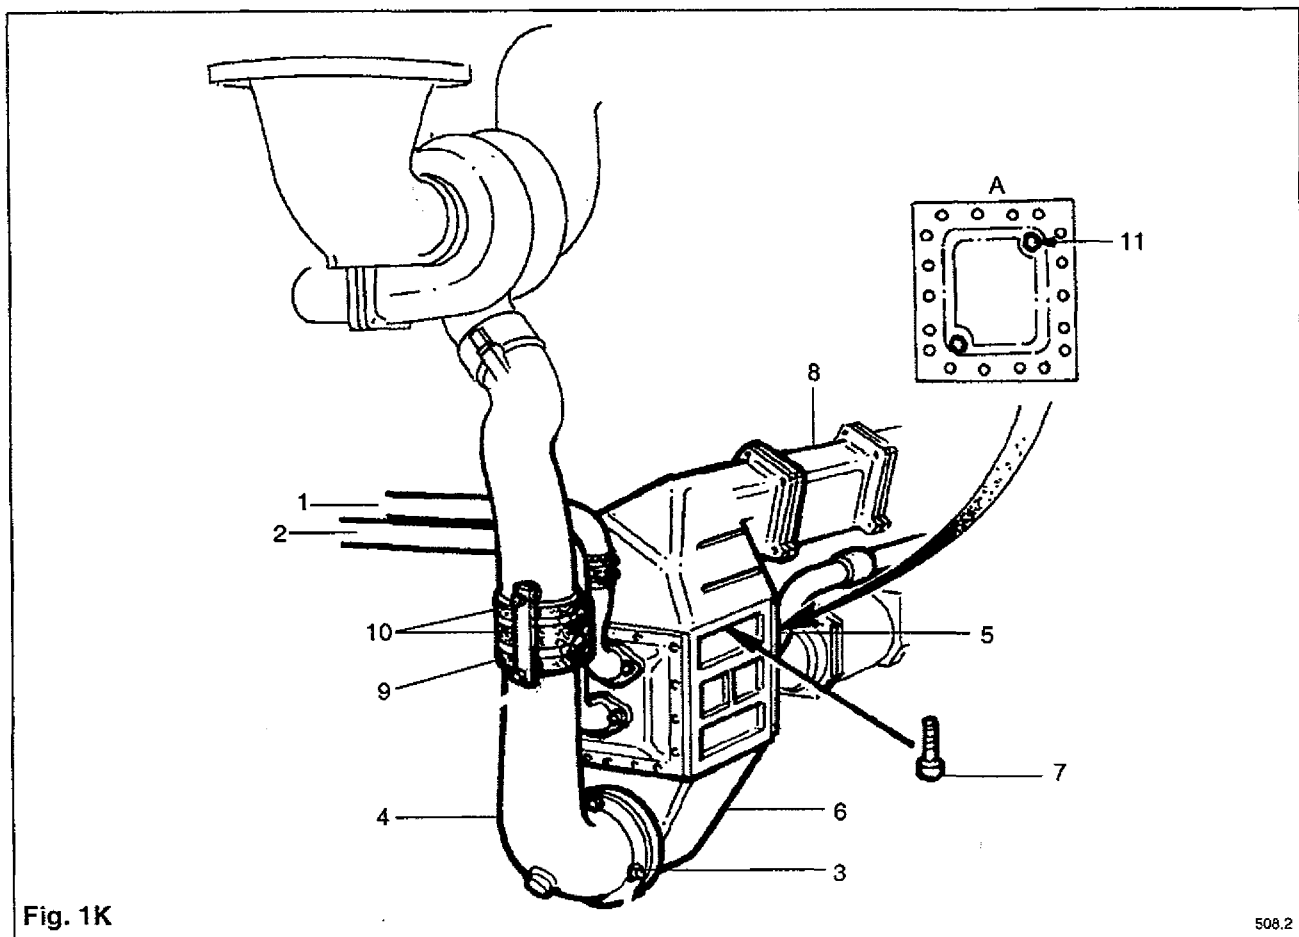
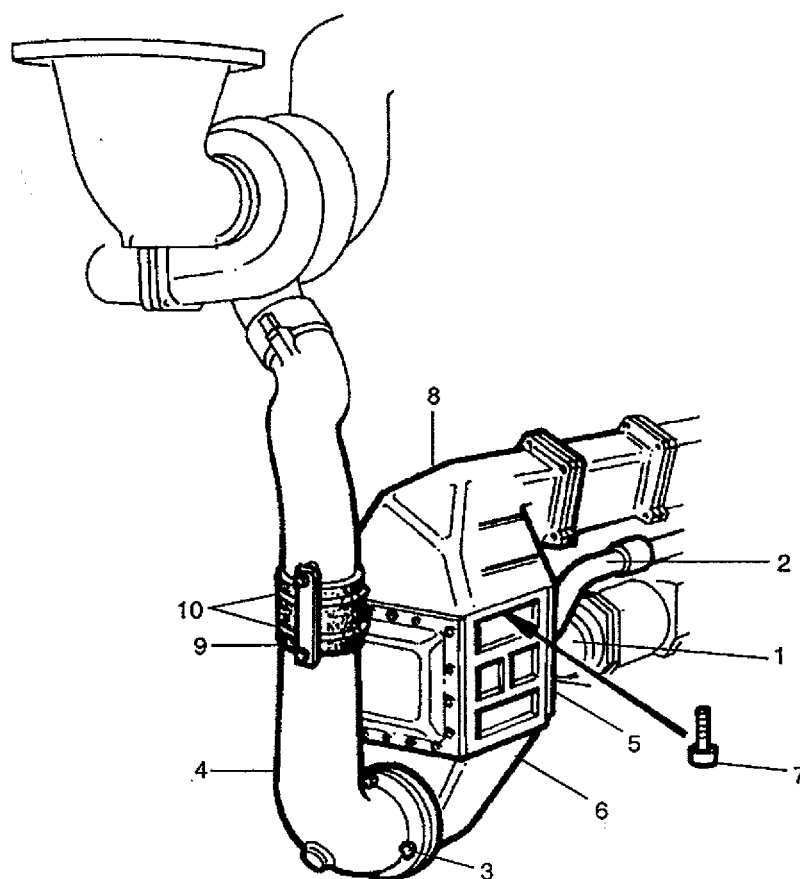

Fig. 1K
Fig. 2K
Still taking a firm grip on the unit, remove the capscrews (7) from the charge cooler mating flange to the air manifold (8). Then carefully remove the combined unit of the charge cooler and bottom air pipe. (See Fig. 1K). Repeat for the other charge air cooler.
(Fig. 1K)
Still taking a firm grip of the unit remove the capscrews (7) from the charge cooler mating flange to the air manifold (8), then carefully remove the combined unit of the charge cooler and bottom air pipe. (See Fig. 2K). Repeat for the other charge air cooler.
Run the engine on light load for a few minutes, check for water leaks and stop the engine. After filling the charge air cooler water system always bleed any trapped air from the coolers by slackening the small plugs near the top of each charge air cooler (see item 11, Fig.1K and Fig. 2K) and top up the radiator if necessary. The engine is now ready to resume its duty.